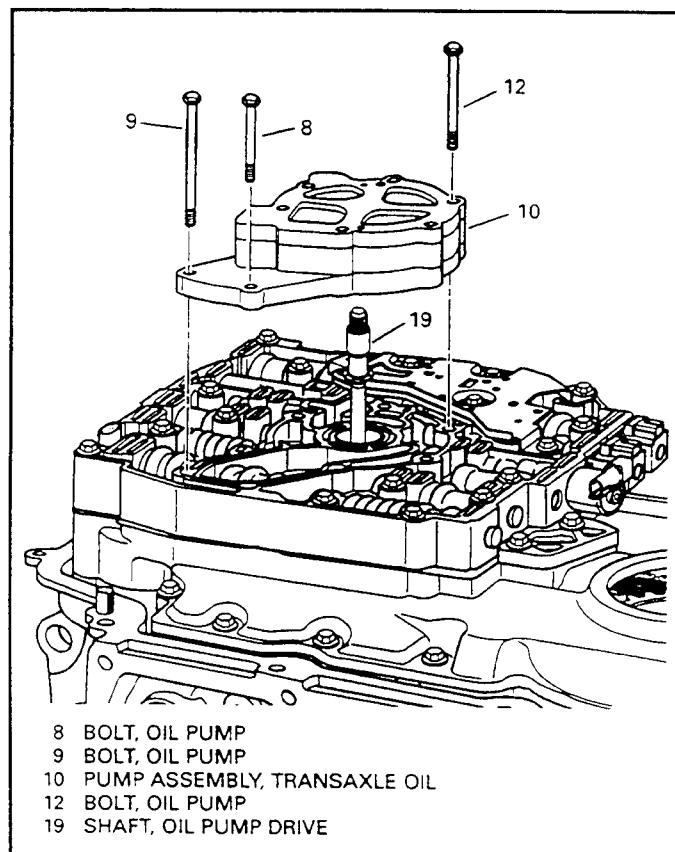

Figure 178
25. Install the oil pump drive shaft into transaxle as shown in Figure 178.
26. Install the oil pump assembly onto the transaxle as shown in Figure 178.